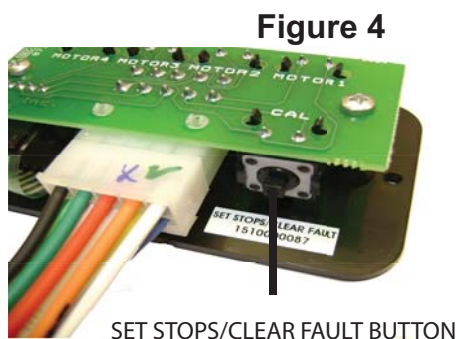
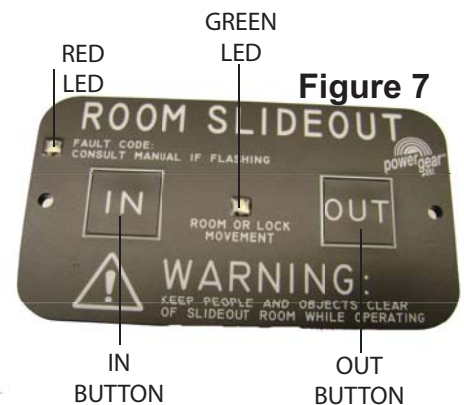

Figure 4
Figure 7
- The GREEN LED indicates system operation. (Figure 7)
- The RED LED indicates a fault or problem with the system. (Figure 7) Refer to Fault Diagnostics Mode in this manual for additional information.
4. Press and hold the OUT button (Figure 7). If equipped with room locks, the room locks will first retract prior to room movement. Reference the GREEN LED indications above to determine component movement.
2. Press and hold the IN button (Figure 7) If equipped with room locks, the room locks will automatically extend when the room is fully retracted. Reference the GREEN LED indications above to determine component movement.
The control has the ability to detect several faults. When a fault is detected, the room movement will stop and the RED LED (Figure 7) will flash a number of times corresponding to a specific fault code listed below.
- **MAJOR** faults must be cleared by pushing the 'Set Stop/Clear Fault' button located on the back of the wall touchpad (Figure 4). This is done to alert the end user that there is a major problem with the system and to prevent damage to the slideout room.
- To determine the fault, count the number of GREEN and RED LED flashes on the wall touchpad (Fig 7) The number of flashes corresponds to a fault code number.
- Remove the touchpad (**Fig 7**) from the wall
- Press and hold the "Set Stops/Clear Fault" button on the back of the wall touchpad for 5 seconds (**Figure 4**). Both LED's will light while the button is held down. (**Figure 7**)
- Press the IN button on the front of the wall touchpad (**Figure 7**) until the room is fully retracted.